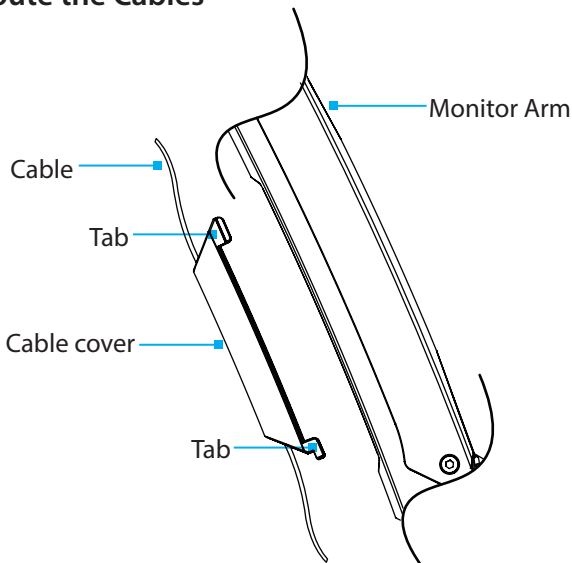

Figure 22
3. Route the **Cables** along the inside of the **Cable Cover**. (Figure 22)